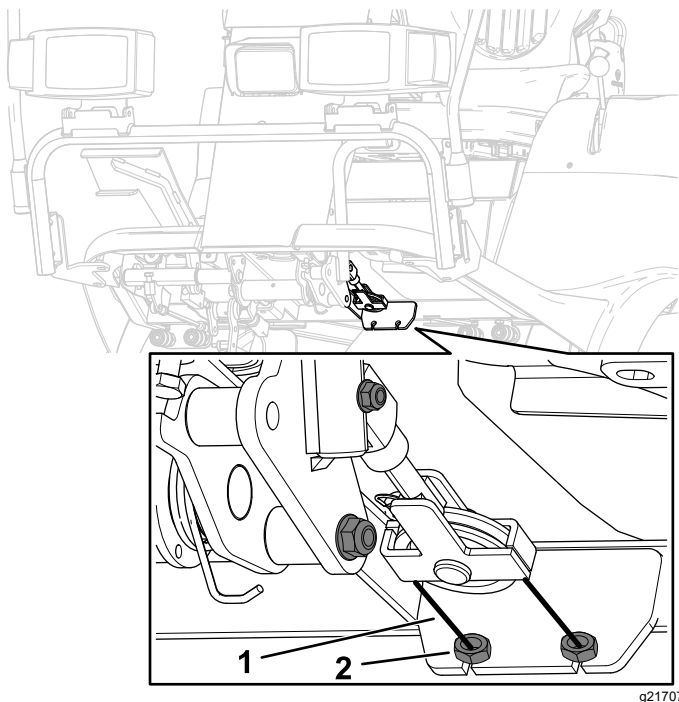

Figure 87
3. If an adjustment is necessary, loosen the front and rear jam nuts on each side of the brake cables (Figure 87).